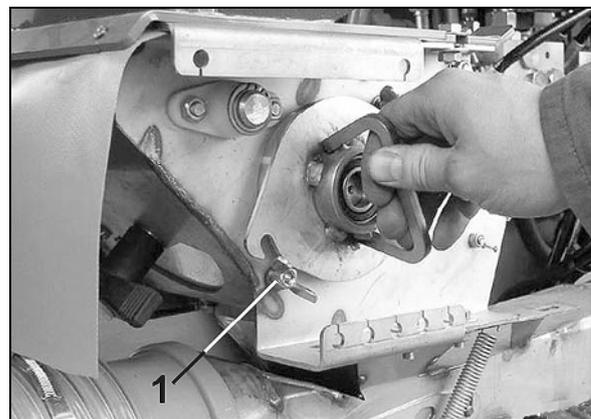

Fig. 89
3. Slacken but do not unscrew the two winged nuts (Fig. 89/1).